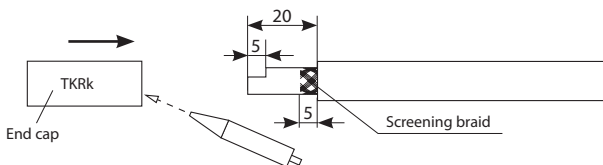

Figure 9
5.2.2. Cut off the end of insulated matrix of the heating tape stepwise (see Figure 9). Fill the end cap with the adhesive sealant and slide it above the heating tape jacket up to stop. Hold the heating tape with the installed end termination up to complete hardening of the sealant (appr. 12 hours).